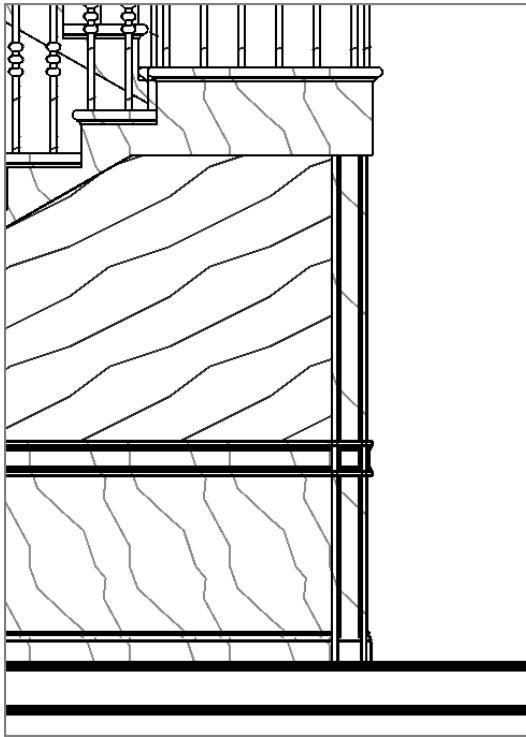

FIGURE 16.18: Placing the sweep on the corner
11. Place a vertical rail in the right corner, as shown in Figure 16.18.